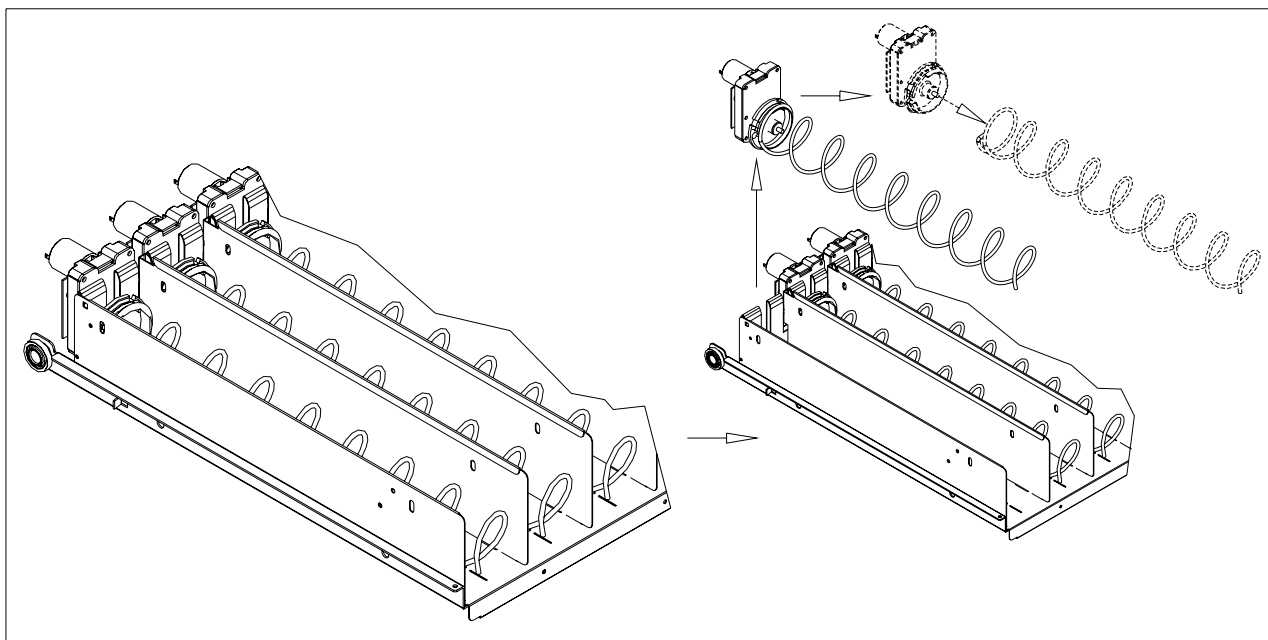

FIG. 7
9.2 REMPLACEMENT D'UNE SPIRALE ET DU GROUPE MOTEUR EJECTEUR (FIG. 7)